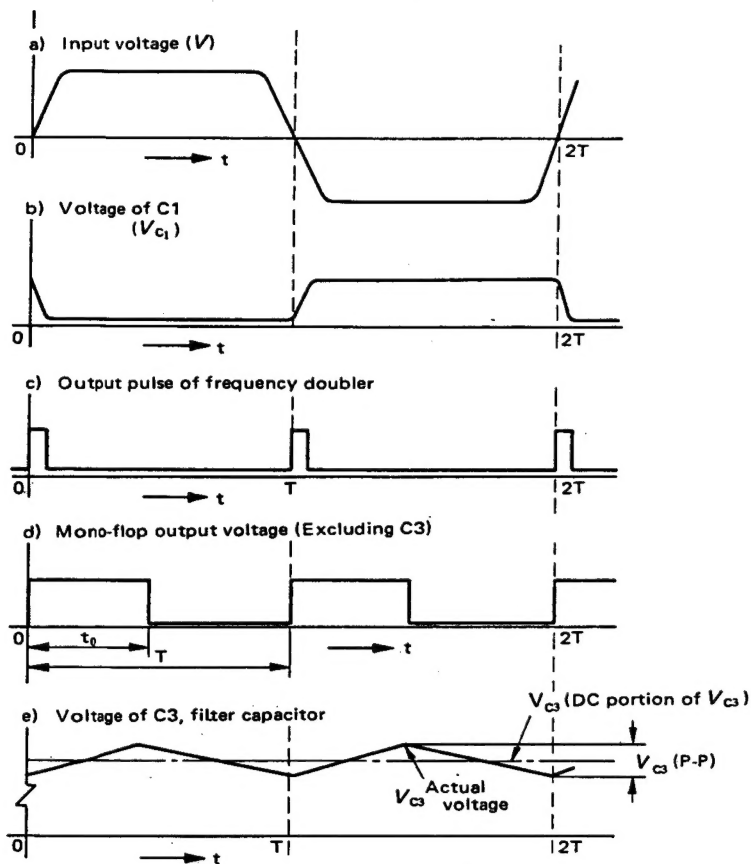
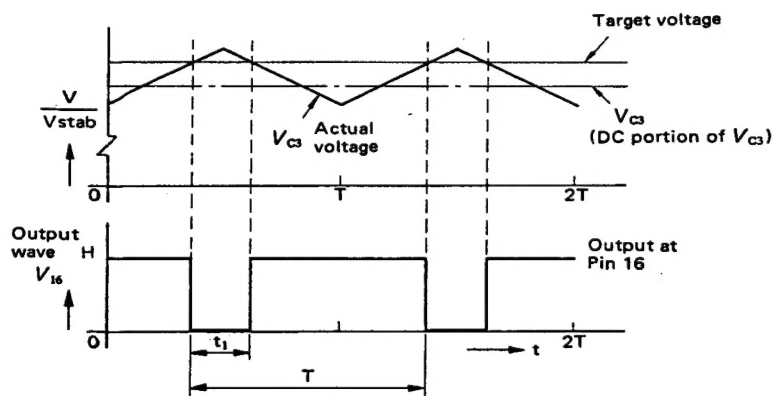

Fig. 4 Timing Chart of Frequency vs DC Converter
Fig. 5 Comparison Duty Cycle of Target Voltage vs Actual Voltage Without Using Switching Oscillator
The above is the outline of each block of the servo IC. Fig. 4 and Fig. 5 indicate the wave form of each part.
- (1) Set the power switch lever on control surface to OFF position.
- (2) Loosen the switch position fixing screws shown in Fig. 5. Adjust the switch position so that the projection of the power switch is pushed in and then tighten the screws. The wires are connected to the normally closed terminals of the switch.